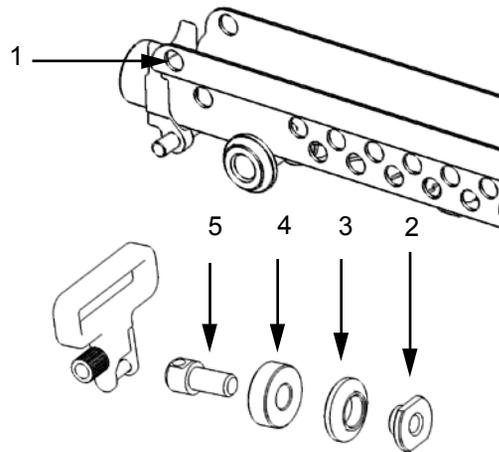

Figure 2. Receiver with Grommet Assembly.
If grommet (Figure 2, Item 3) is in the eyelet hole of the receiver,(Figure 2, Item 1) follow steps 1 through 4 below.
1. Place stud (Figure 2, Item 5) into thick spacer (Figure 2, Item 4).
2. Place and hold lug (Figure 2, Item 2) in the inside of receiver grommet(Figure 2, Item 3) lip end first.
3. Add one drop of blue loctite 246 (WP 0049, Item 12) to threads of stud (Figure 2, Item 5).
4. Screw stud (Figure 2, Item 5) with spacer (Figure 2, Item 4) into lug (Figure 2, Item 4) and snug down stud (Figure 2, Item 5).
If the receiver is missing a grommet(Figure 2, Item 3), follow the steps 5 through 8 below.
5. Place stud (Figure 2, Item 5) into thick spacer (Figure 2, Item 4).
6. Place replacement grommet (Figure 2, Item 3), lip end first, into the inside of receiver (Figure 2, Item 1) where the missing grommet would normally be found.
7. Place and hold lug (Figure 2, Item 2), lip end first, in the inside of receiver and into spacer (Figure 2, Item 4).
8. Add one drop of blue loctite 246 (WP 0049, Item 12) to threads of stud (Figure 2, Item 5) and screw stud (Figure 2, Item 5) with spacer (Figure 2, Item 4) into lug (Figure 2, Item 2) and snug down stud (Figure 2, Item 5).